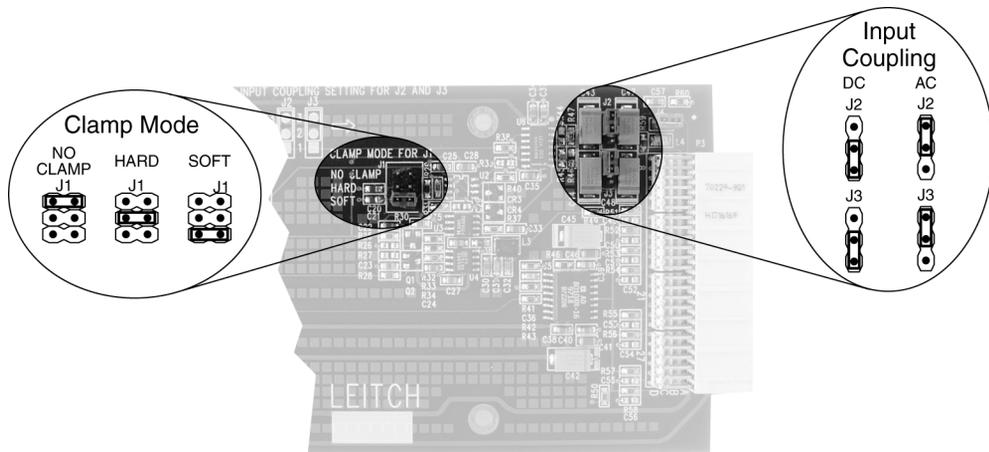

Figure 8-11. VPD-6830-DEQ Jumper Locations
1. Set the **Input Coupling** for either AC or DC coupling using jumpers **J2** and **J3**. See Figure 8-11 on page 82 for jumper locations.
2. Set the **Clamping** mode on jumper **J1** to either **Soft**, **Hard** or **No Clamp**. See Figure 8-11 on page 82 for jumper location.